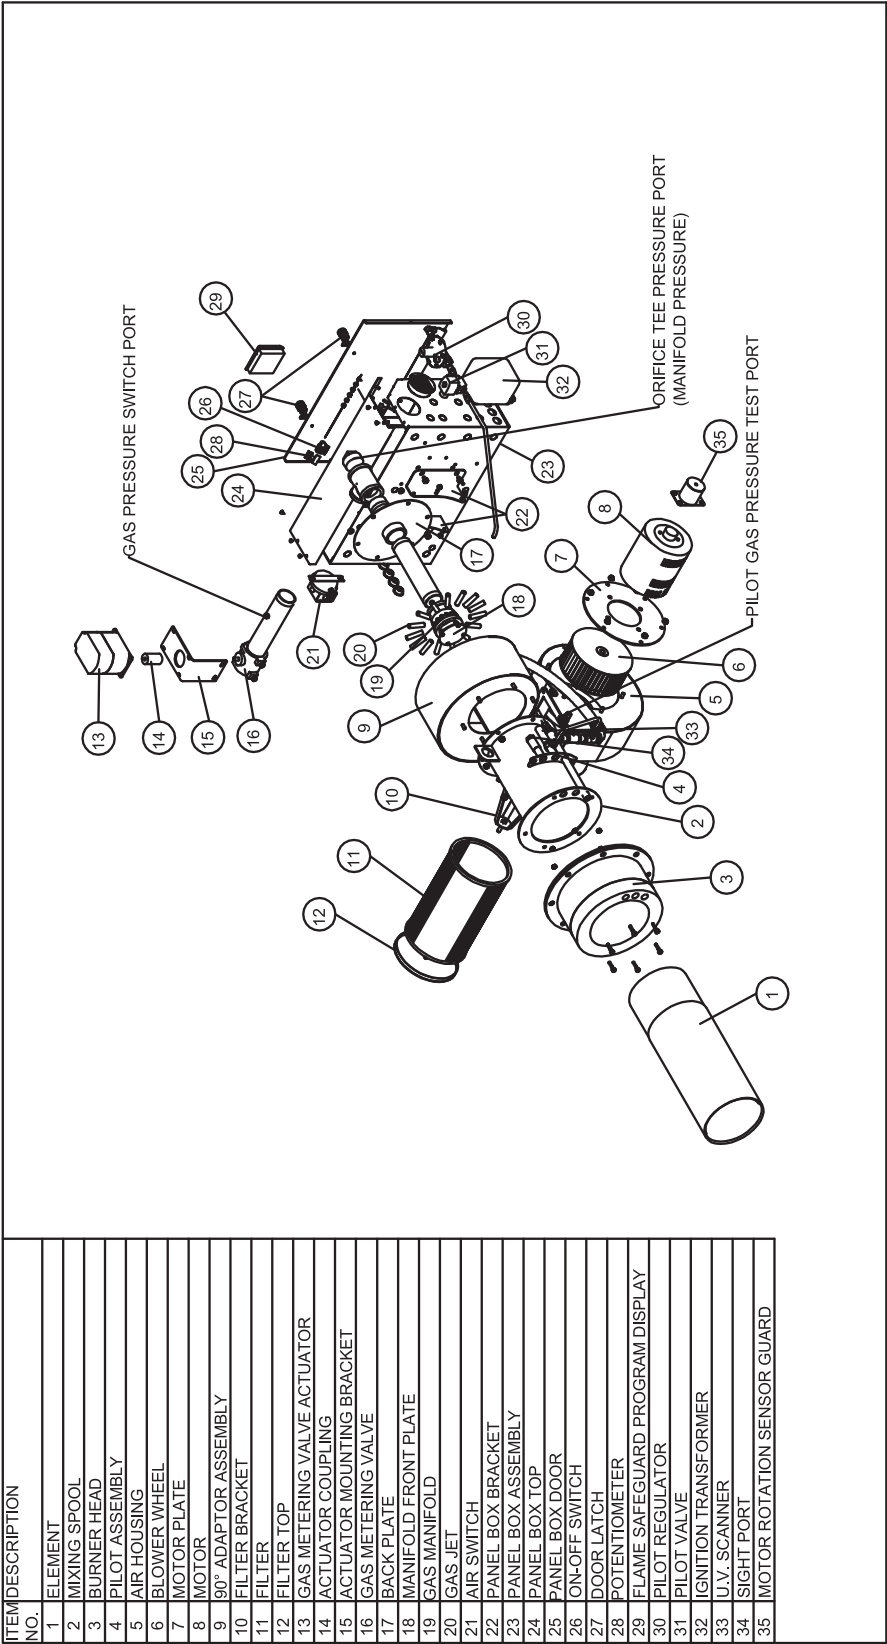

Figure 3: Exploded View
10. Proper test equipment must be used in order to achieve maximum system operational reliability and fuel efficiencies. **See item 12, page 10** for equipment lists. Also, **refer to Figure 3** (Exploded View) for the air and gas pressure connection ports.